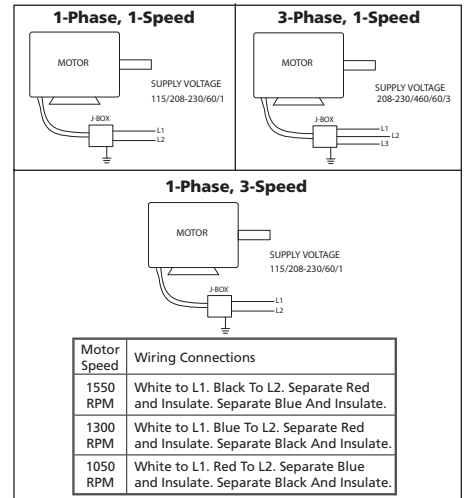

Figure 3 — Typical Wiring Diagram Operation
- Mount and wire safety disconnect switch under ventilator cover and wire motor per connection wiring diagram on motor. See Electrical Connection, Figure 3. Wire control switches at ground level.
NOTE: Refer to Figure 3 for connection wiring diagram.